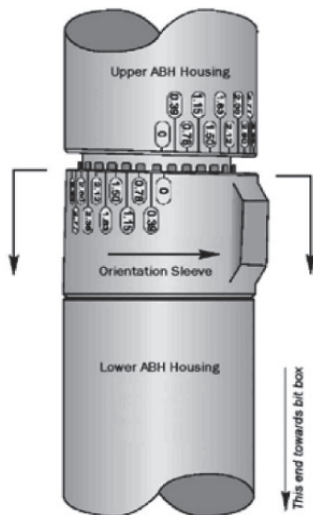

Figure 10
4. Referencing Figure 10, left, slide the Orientation sleeve down to disengage the interlocking teeth.